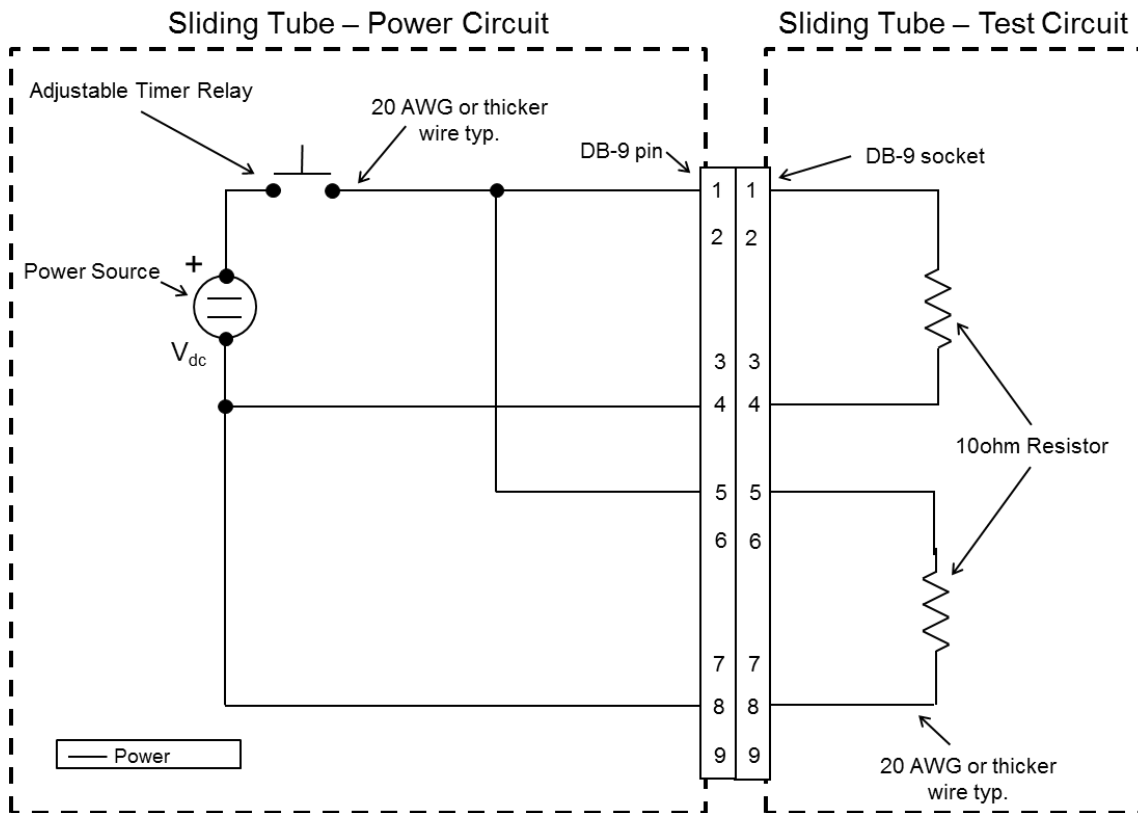

Figure 38: Sliding Tube Test Circuit
11.1.2	Set up the 'Sliding Tube – Power Circuit' per Figure 38. Do not connect the Lightband.
11.1.7	Set up the 'Sliding Tube – Test Circuit' per Figure 38. This uses a 10 ohm resistor (≥30 W) to simulate each Lightband motor.